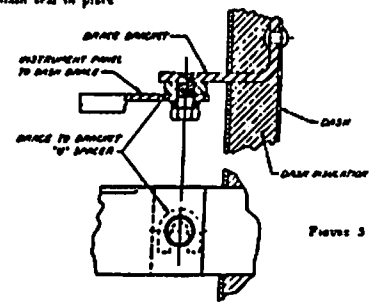

FIGURE 3
- 1 Refer to Figure 3 which shows the location of the holes in the reinforcing brace on which the speaker is to be mounted.
- 4 Loosen the bolt on the right hand bracket at the dash to which is attached the instrument board reinforcing brace slip the 1/2" shim (fastened in the necessary kit) between the bracket and the brace and then tighten the bolt. (See Figure 3).